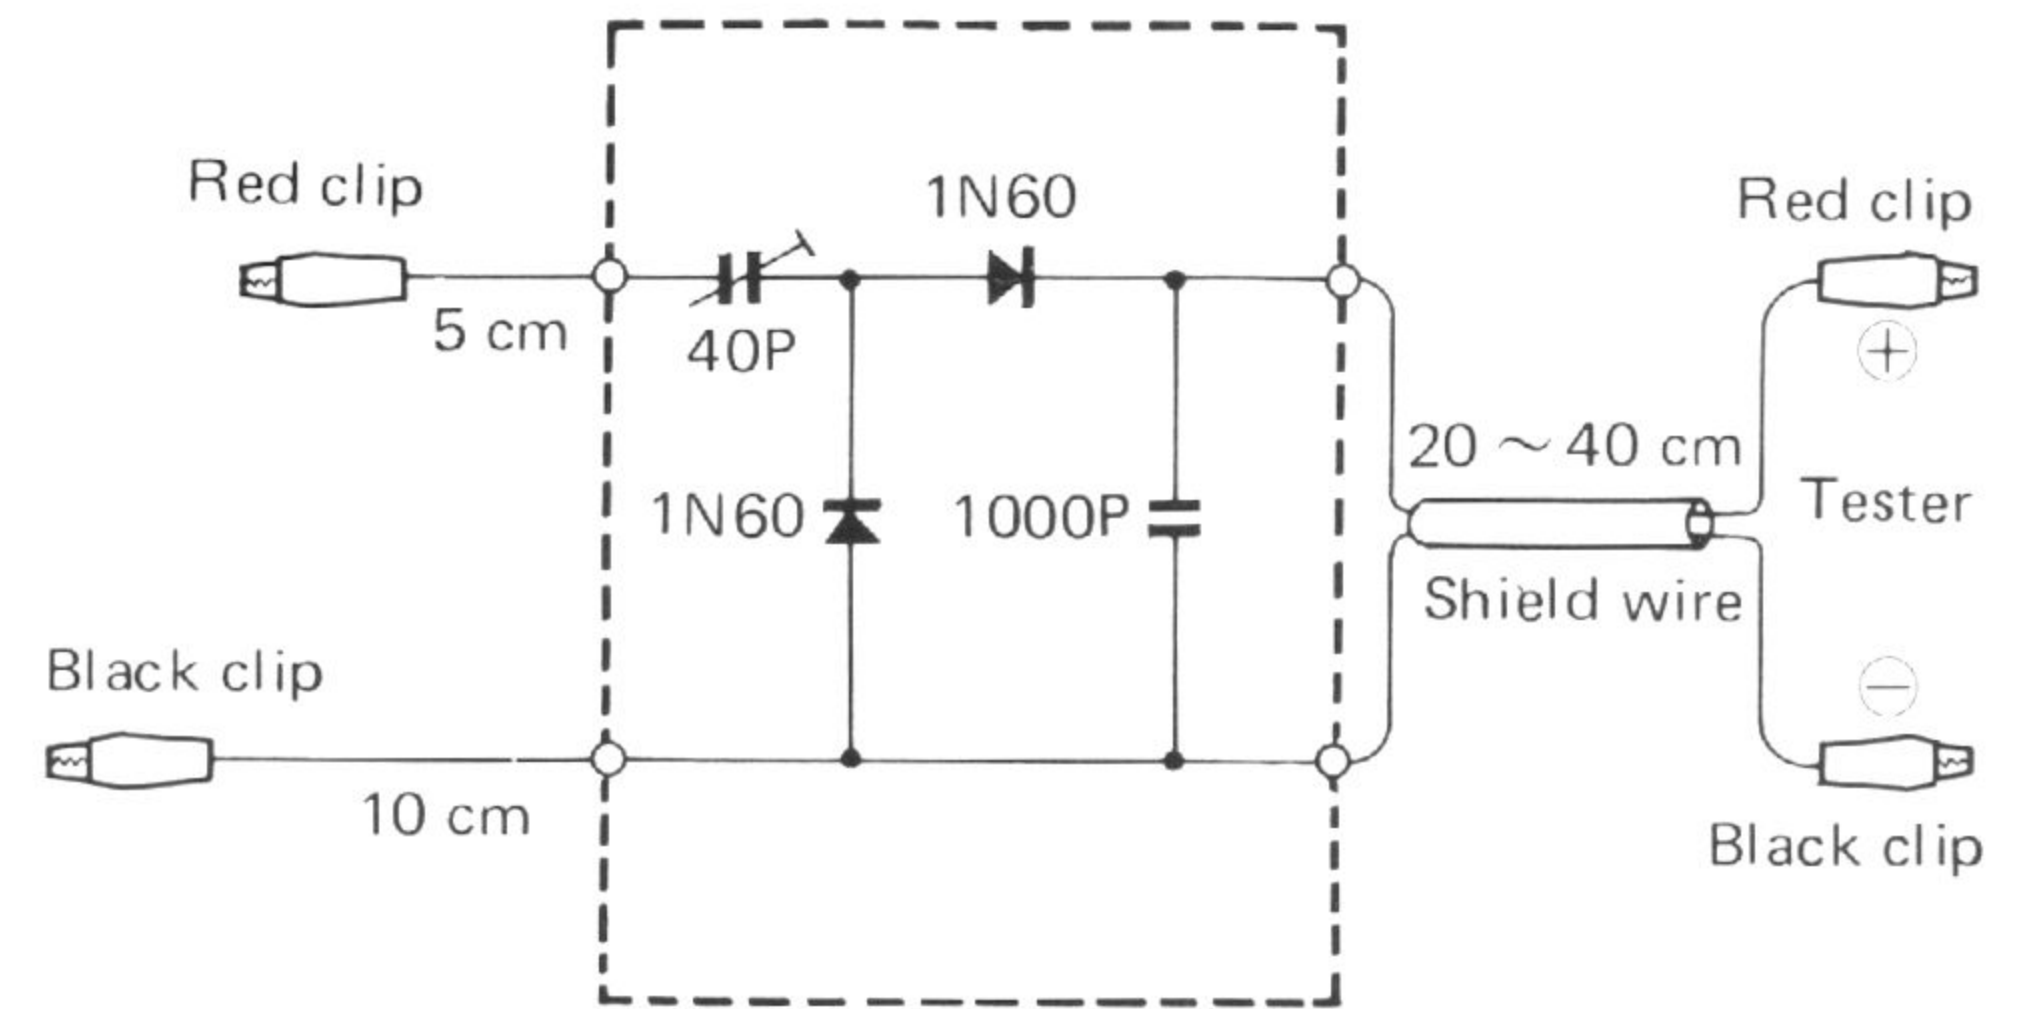

Fig. 1
- Adjusting procedure (Refer to Fig. 1)**